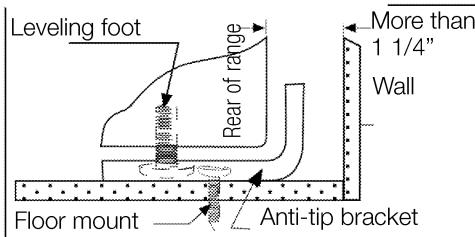

Fig. 3
1. The anti-tip device has to be attached to the rear wall or floor as shown in Figure 3.